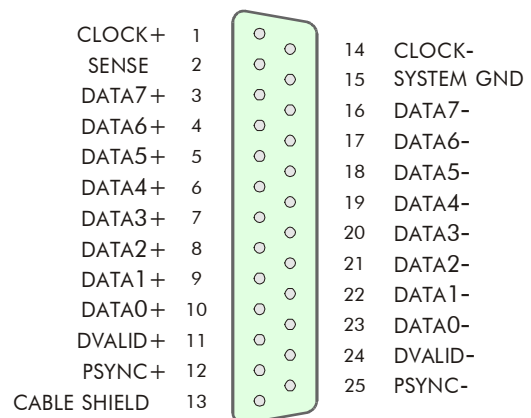

Figure 6. Pin assignment of 25-pin sub-D connector in *Standard DVB/SPI Mode*.
In *Standard DVB/SPI Mode*, the Transport-Stream input of the DTA-122 conforms to the DVB/SPI specification (refer to §1.4 for references), with one small exception explained below the pin out of the 25-pin sub-D connector in Figure 6.
- In Figure 6, pin 1 is drawn in the upper-left corner. However, physically the pin is located at the bottom-right side (PCI bracket held in its normal position).